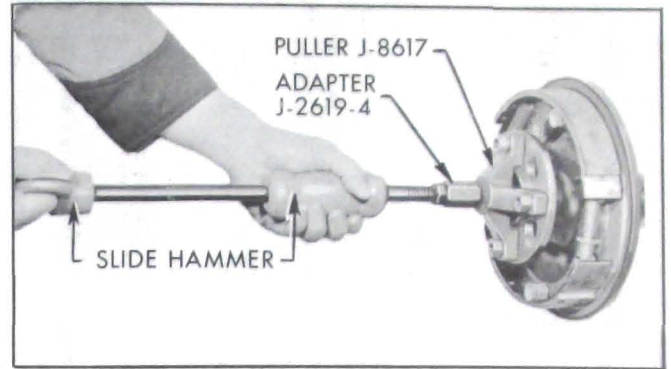

Figure 6-4—Removing Rear Axle Shaft
4. Pull out axle shaft assemblies using Puller J-8617 and Adapter J-2619-4 with a slide hammer. See Figure 6-4.